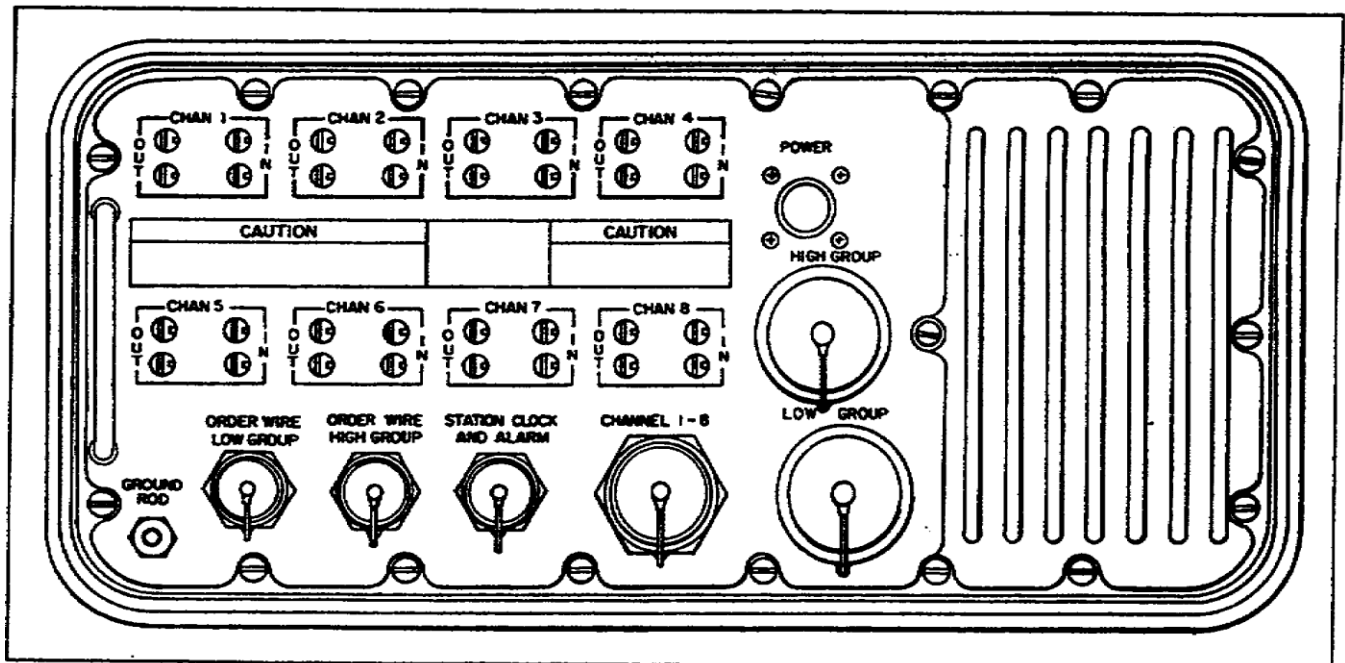

Figure 1-27. TD-1234/TT (rear).
- c. Connect the CX-11230A/G to the rear of the TD-1234/TT. It is connected to HIGH GROUP if going to the next unit or to the terminal AN/TRC-173. It is connected to LOW GROUP if it is going down to another TD-1234/TT or a TD-1233/TT. (See Figure 1-27.)